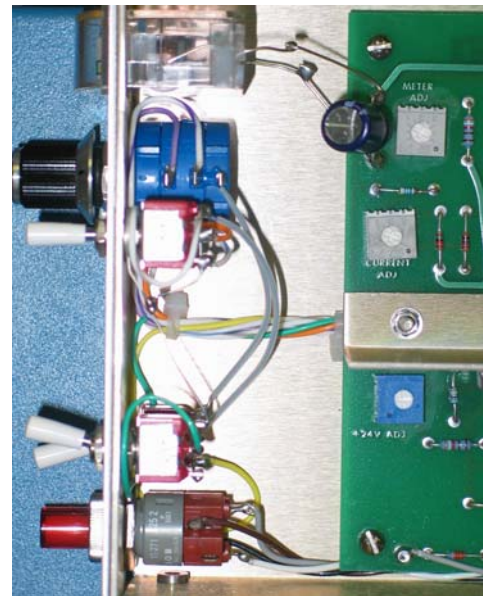

Figure 5 - Constant Current Potentiometer Location
5. Locate the current adjust potentiometer. (Refer to **Figure 5**).